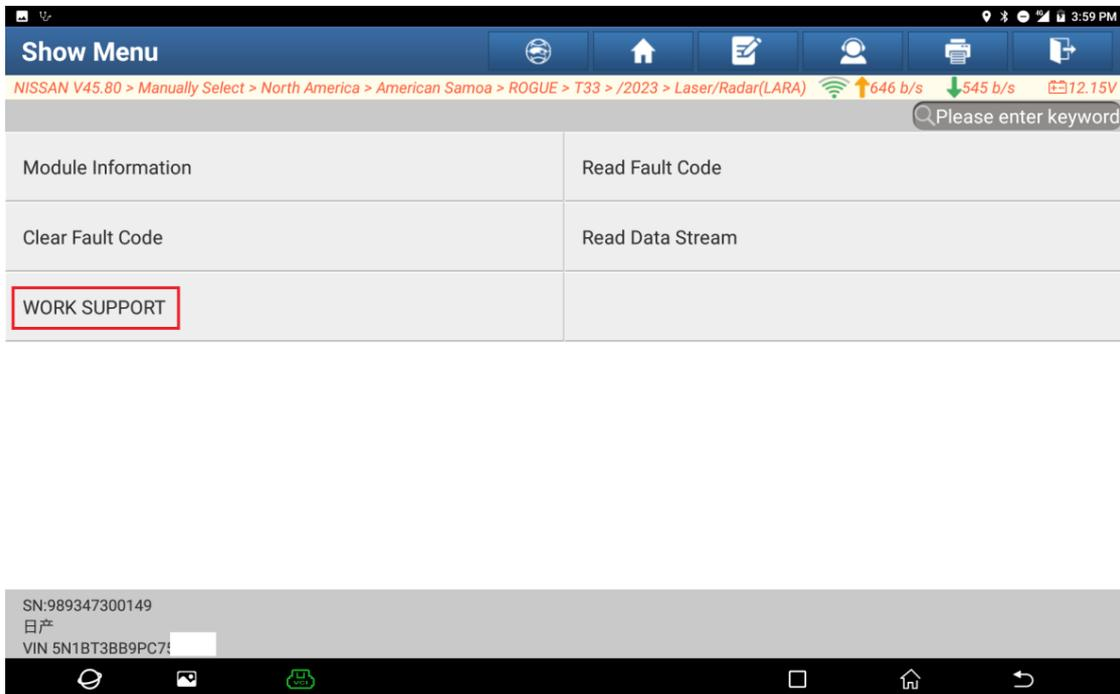

Figure 4
- Choose [WORK SUPPORT] (as shown in Figure 4).